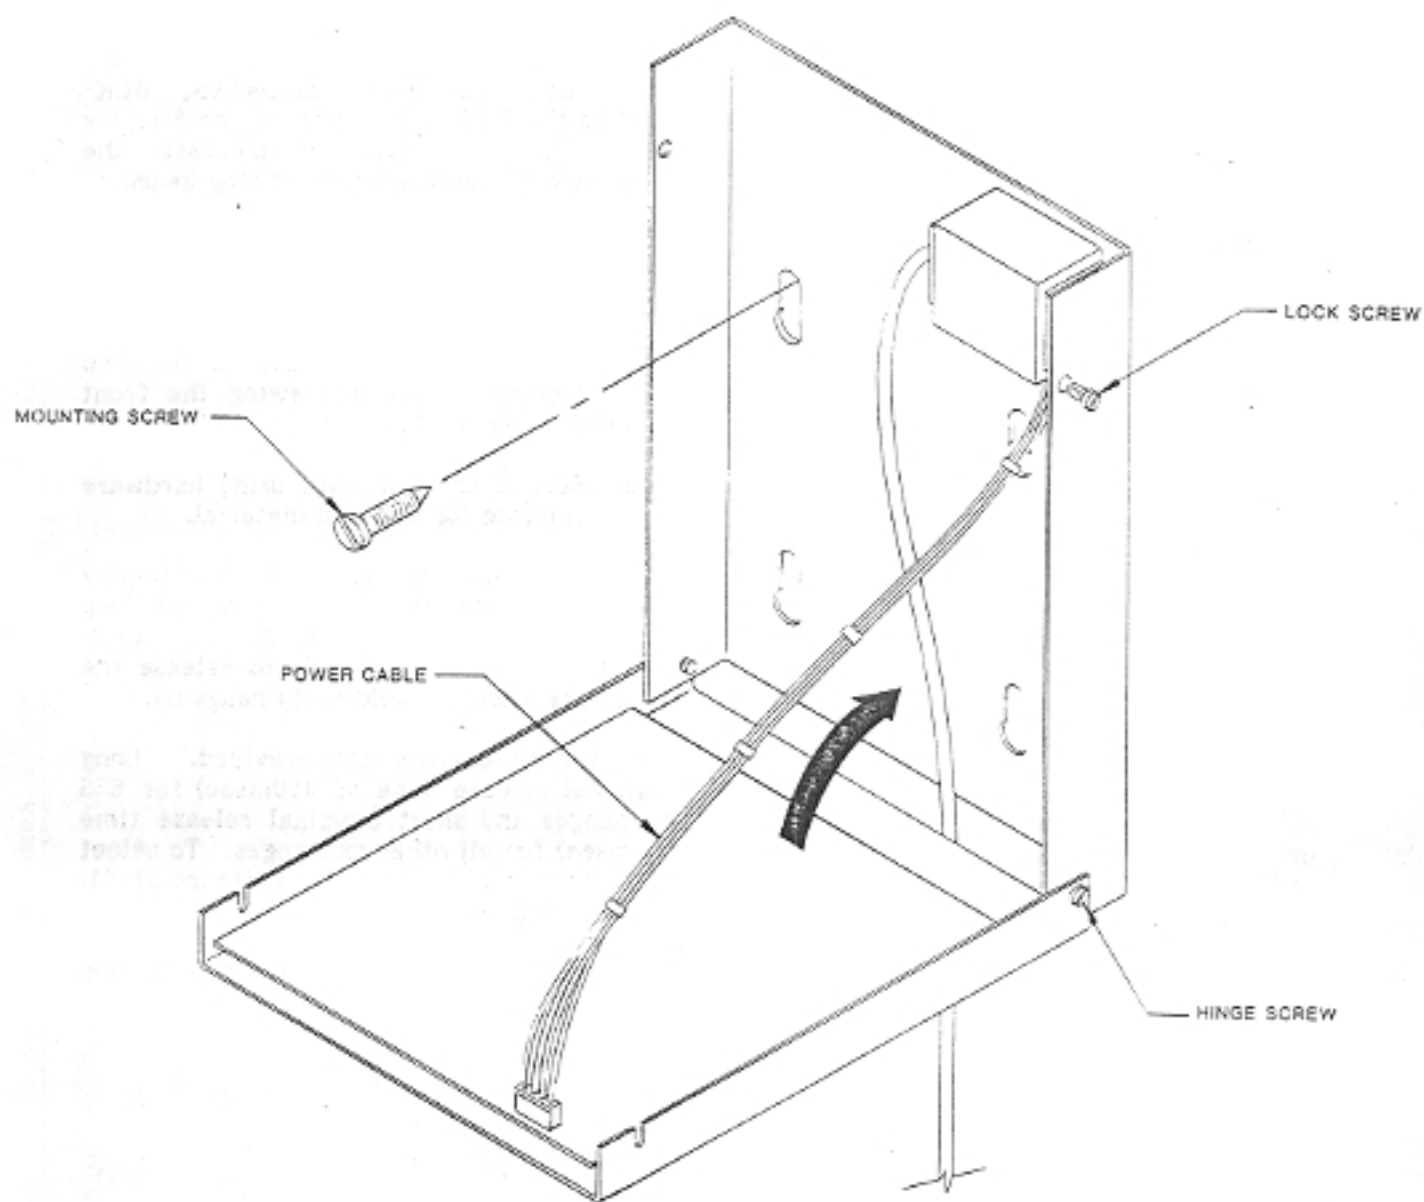

Fig. 1 -- Mounting Diagram
4.01 Refer to Fig. 1. Loosen the two locking screws and swing the front panel open carefully.